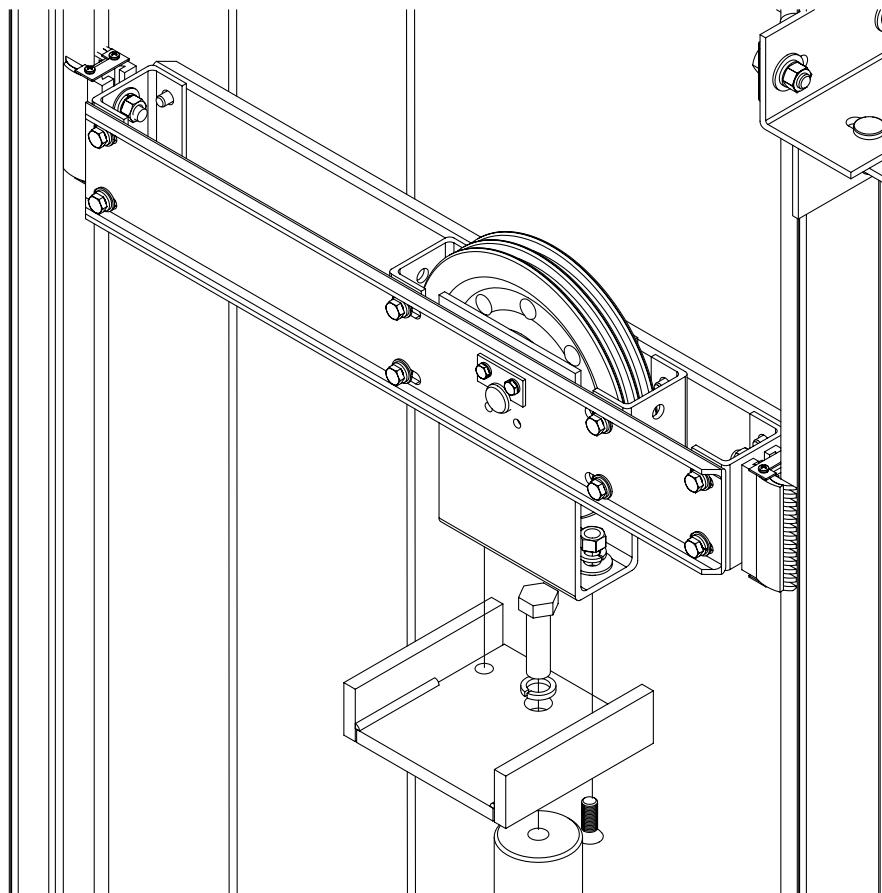
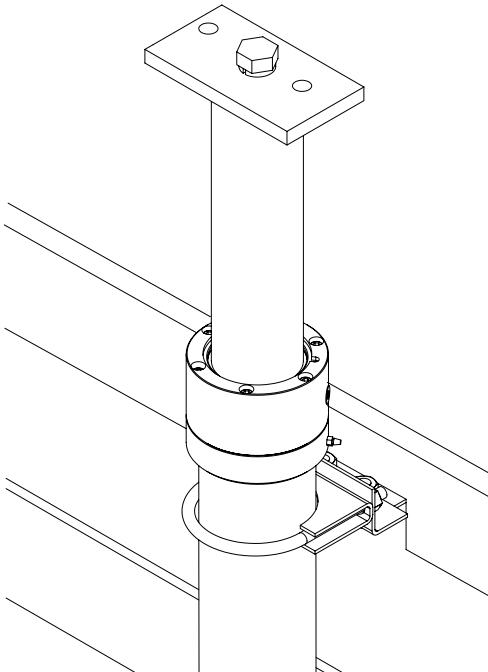

Figure 29 Sheave/Guide Yoke
Figure 30 Jack Platen Plate without Car Top Prop
- 1) Install the two (2) guide shoes, one on each side of the yoke and insert the nuts but do not tighten (Figure 29).
- 2) Loosen the eight (8) nuts and bolts on either end of the yoke to make it easier to "squeeze" the yoke assembly between the rails.
- 3) While standing on the scaffold, install the Jack Platen Plate on top of the jack and tighten (Figures 30 and 31). Note the difference when a Car Top Prop is used.